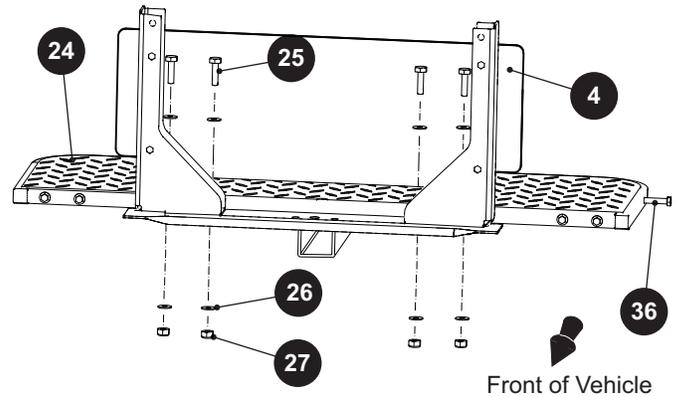

Fig. 7 Foot Rest
1. Remove the rear closeout panel (4) (See Rear Closeout Panel Replacement on page 30)
2. Remove the bolts (36) and lock nuts that secure the footrest (24) to the armrest (Ref. Fig. 7).
3. Remove the bolts (25), flat washers (26), and lock nuts (27) to remove the footrest (24) from the vehicle (Ref. Fig. 7).